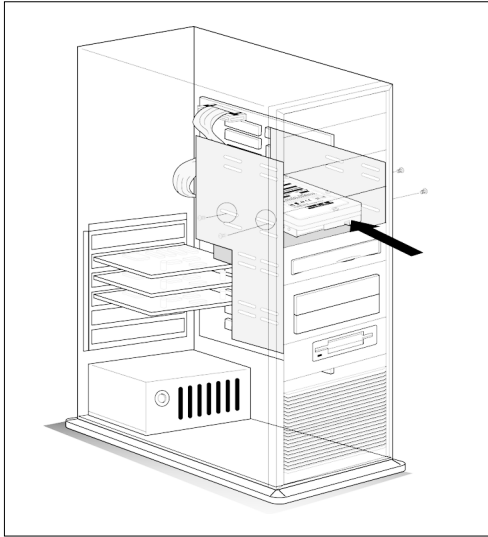

Figure 11. Installing a 50- or 68-pin Drive
- 1) Using a non-magnetic screwdriver and four mounting screws, mount the 50-pin or 68-pin drive in the computer system's mounting frame as shown in Figure 11. Use four 6-32 mounting screws. Do not install the screws past .150-inch.